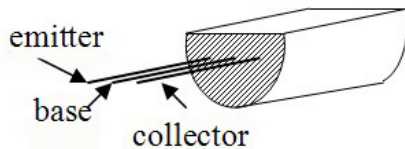
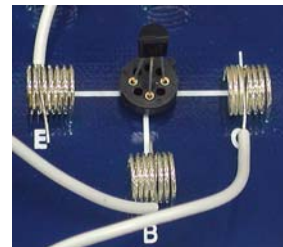

Figure 5: Emitter, Base, Collector
Figure 6: Mounting the Transistor
1. Locate the 2N-3904 transistor. Use Figure 5 to identify the base, emitter and collector. Bend the wires slightly to mount the transistor in the transistor mount as shown in Figure 6. Note that the flat side of the transistor is facing the base spring so the emitter is on the left.